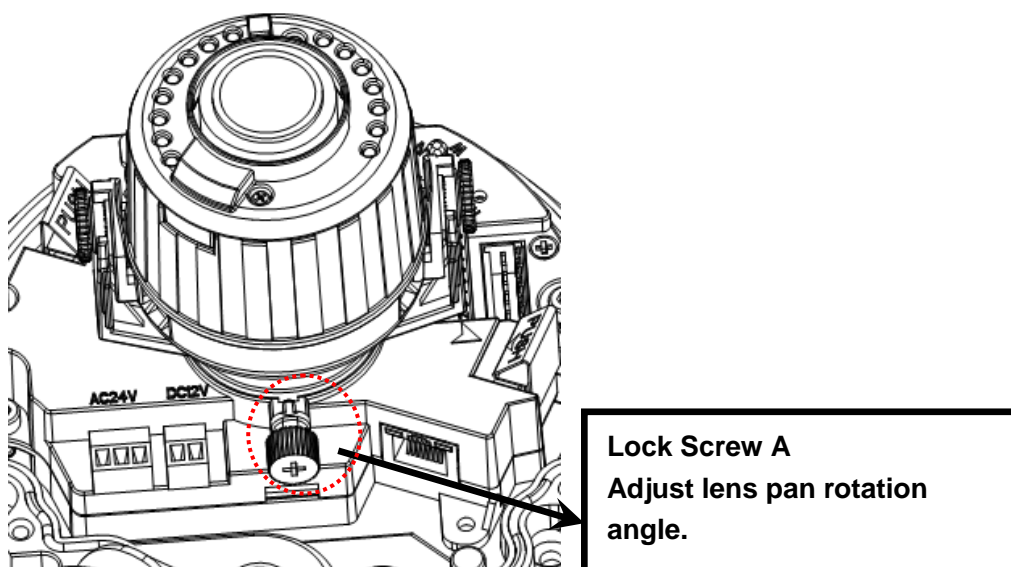
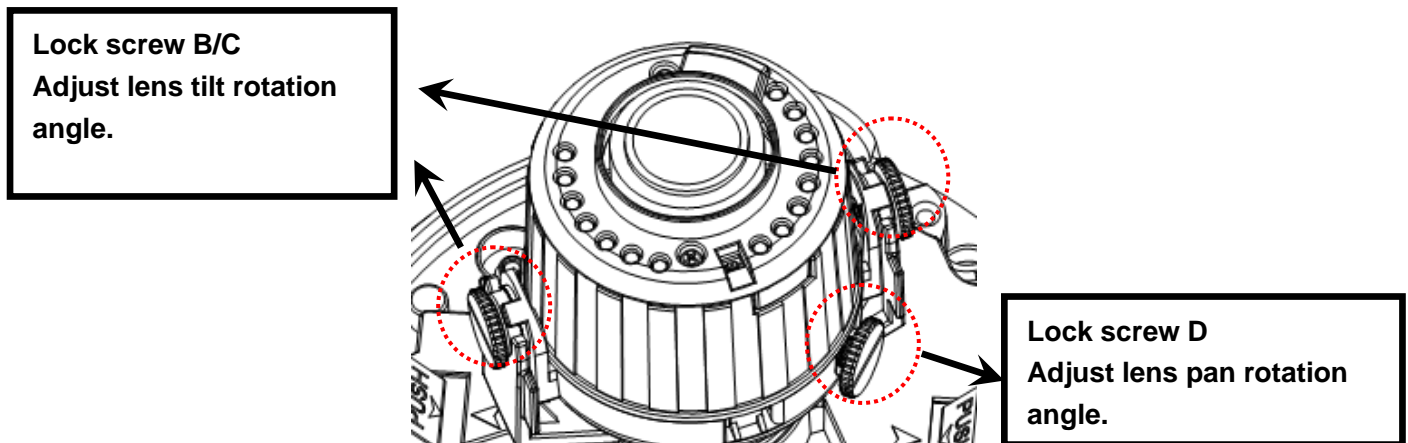

Figure 2-7
Figure 2-8
b) Lens pan rotation angle setup. Please refer to Figure 2-7 to unfasten the lock screw A and adjust the pan monitor angle to the proper position. Then fix the lock screw A. The pan angle ranges from 0°~+350°.
c). Lens tilt rotation angle. Please refer to Figure 2-8 to unfasten the lock screw B and lock screw C and adjust the tilt monitor angle to the proper position. Then fix the lock screw B and lock screw C. The tilt angle ranges from -23° ~ $+73^{\circ}$.
d). Image pan rotation angle setup. Please refer to Figure 2-8 to turn lock screw D to adjust the video pan angle. Then fix the lock screw B and C. The video pan angle ranges from 0° ~ $+350^{\circ}$.
Please note Figure 2-7 and Figure 2-8 is based on the IR motorized zoom camera. For the IR manual zoom camera and non-IR series product, the lock screw position and the lens angle adjustment are the same.